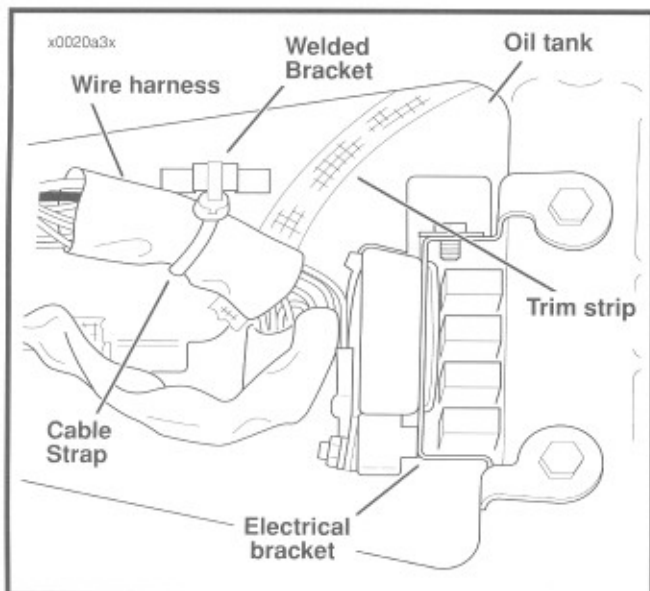

Figure 3-47. Secure Wire Harness
7. Align holes in electrical bracket with wellnuts in cross member of motorcycle frame. Install two bolts. Tighten bolts to 6-9 in-lbs (0.7-1.0 Nm) torque. See Figure 3-47.